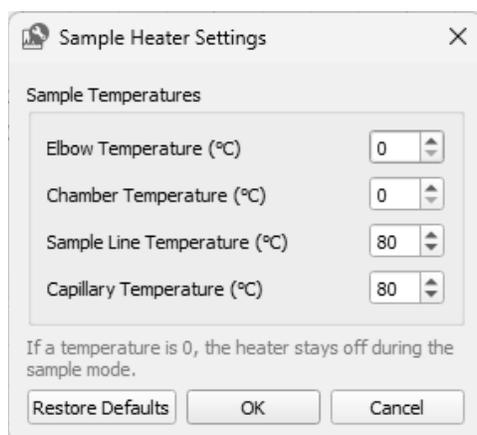

Fig. 2-16. Sample heater settings dialog box
- **Sample Heater Settings:** A UGA system equipped with the Sample Heater Accessory (option O100HC) have two additional heaters: the sample line heater and the capillary heater, in addition to the baking heaters – the elbow and chamber heaters. For heated gas sampling the capillary and the sample line of UGA need to be heated. In some cases the RGA chamber needs to be heated also. To control the temperature of sample heaters, open the Sample Heater Settings dialog box (Fig. 2-16) from menu UGA > Sample Heater Settings.
Select menu UGA > Sample Heater Settings. Type in the desired temperature settings in the Sample Heater Settings dialog box (Fig. 2-16). The heating temperatures can be set from 40 °C to the maximum of 100 °C. This temperature limit is important for the valves' (Sample valve & Bypass valve) performance. In a high temperature model UGA_HT, sample line and capillary temperatures can go up to 220 °C. The default values are 0 °C for Elbow and RGA chamber, and 80 °C for Sample line and Capillary.